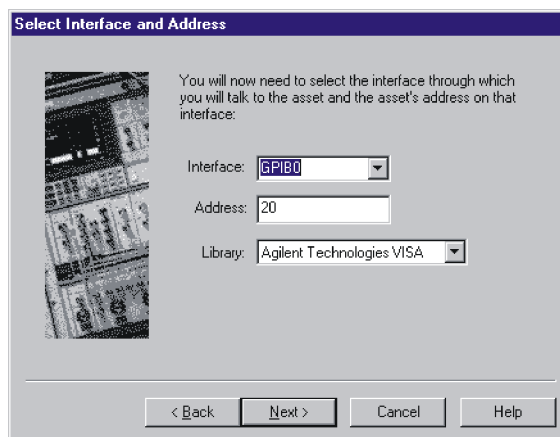

Figure 1-16 Choose the Interface and Address for the Agilent 70420A
- 4 In the Select Interface and Address box (Figure 1-16):